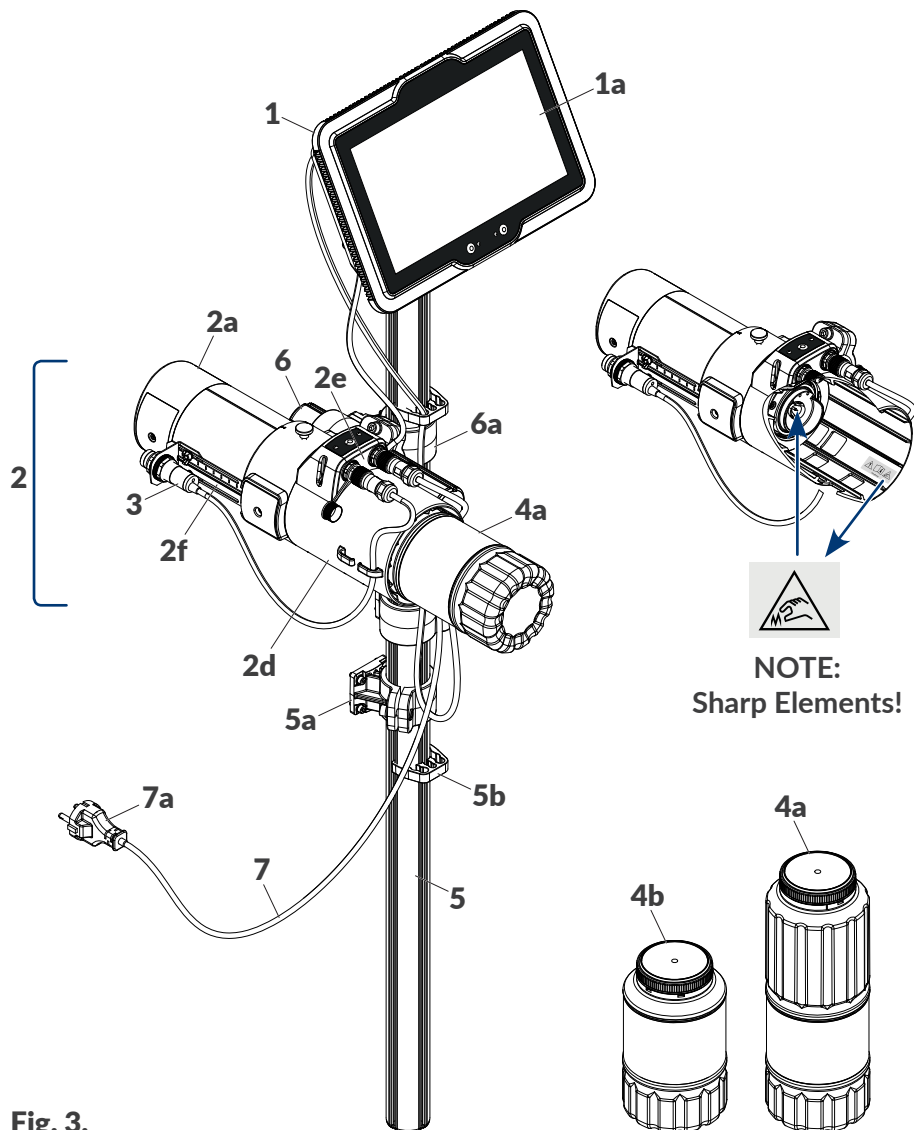

Fig. 3.
* - depending on a given country, power plug **7a** may differ from that shown in **Fig. 3**